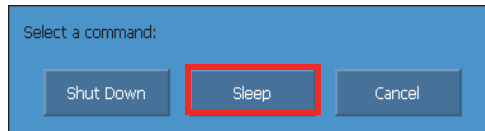

Figure 3-3 Sleep mode selection
2. Select **Shut Down** (see Figure 3-3 on page 43).
The "Select a command" message appears (see Figure 3-3 on page 43).